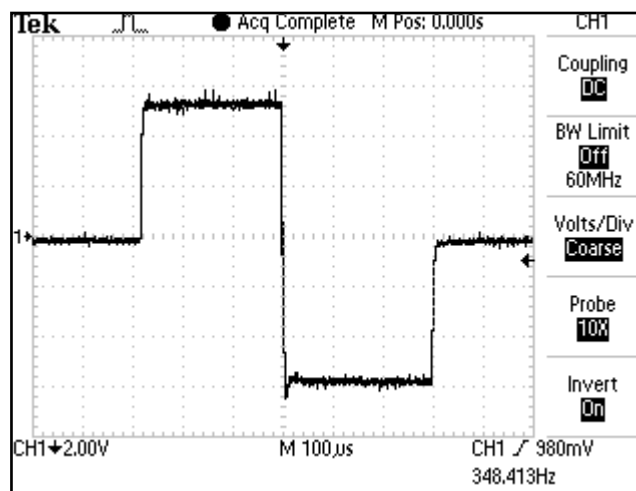

FIGURE 4.4
C. TENS- Symmetrical Biphasic- Figure 4.4